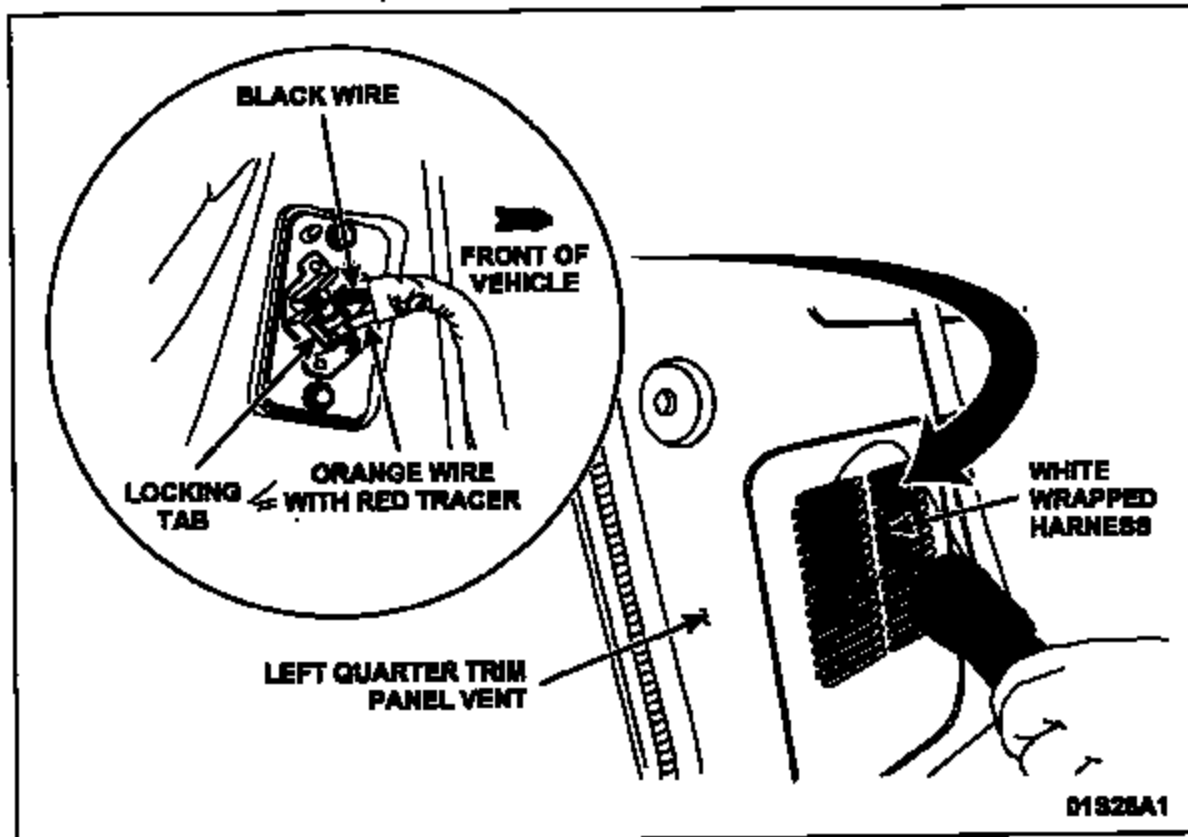

FIGURE 1
- If the white wrapping is not present or not visible, use a flashlight to verify that the auxiliary blower motor electrical connector has a black wire installed to the left of the connector locking tab. There will be an orange wire with a red tracer to the right of the locking tab. See Figure 1.